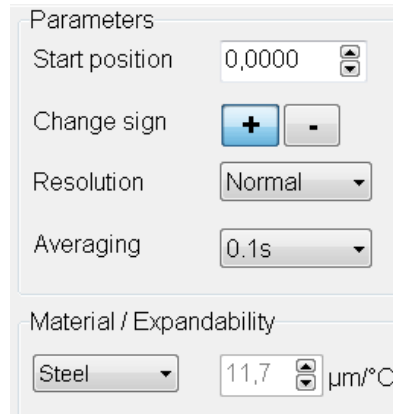

**FIG.3.33. MEASUREMENT PANEL**
- Panel **Measurement** (figure 3.33) contains basic information about conducted measurement. With the left button the type of measurement can be changed. The right is used for choosing measuring axis. At every change of measuring option (i.e. distance, speed, angle, straightness) and/or change of measuring axis (i.e. X, Y, Z) a drawing suggesting the arrangement of the optical elements appears on the screen. Clicking with left mouse key in the area of the drawing invokes help on a theme of the optical arrangement alignment. Panel **Measurement** can also contains an option **Adjustment**. This option is very helpful in optical path *alignment process* (see chapter 4).